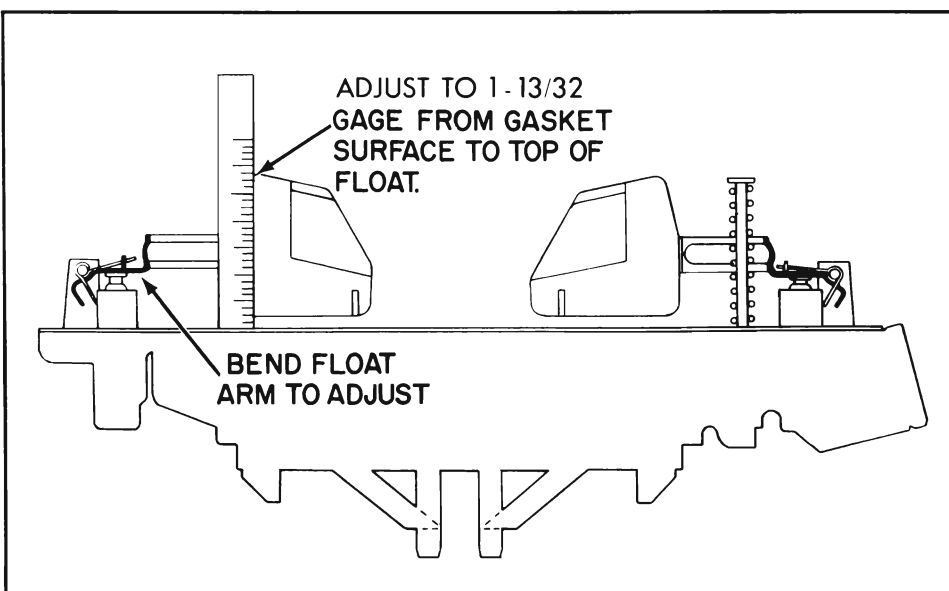

Figure 3-49—Float Adjustment
16. Install primary and secondary float assembly and torsion springs on the air horn, retaining in place with hinge pins. Make sure torsion springs are installed correctly. See Figure 3-49.
the air horn gasket to the top of the float, as shown in Figure 3-49.